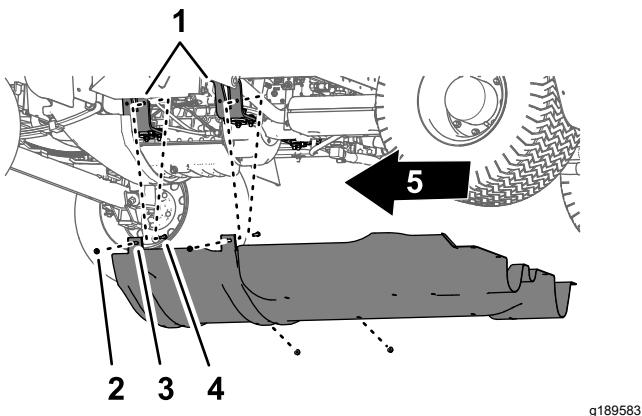

Figure 68
2. Remove the 4 flange locknuts (5/16 inch) from the bolts and carriage bolt that secure the mounting tabs of the undercarriage shroud to the engine-mount brackets of the machine (Figure 68).
4. Remove the undercarriage shroud from the machine (Figure 67 and Figure 68).
1. Align the undercarriage shroud to the bottom chassis of the machine; refer to Figure 68 in Removing the Undercarriage Shroud \(page 53\).
2. Move the mounting tabs of the undercarriage shroud over the bolts and carriage bolt at the engine-mount brackets of the machine; refer to Figure 68 in Removing the Undercarriage Shroud \(page 53\).
3. Assemble the undercarriage shroud to the engine-mount brackets and bolts (Figure 68) with the 4 flange locknuts (5/16 inch) that you removed in step 2 of Removing the Undercarriage Shroud \(page 53\).